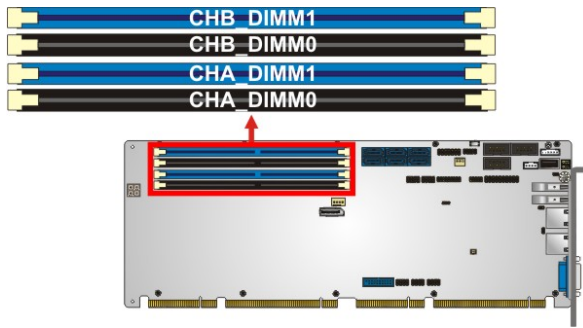

Figure 3-6: DDR4 DIMM Socket Locations
- CN Location:** See **Figure 3-6**